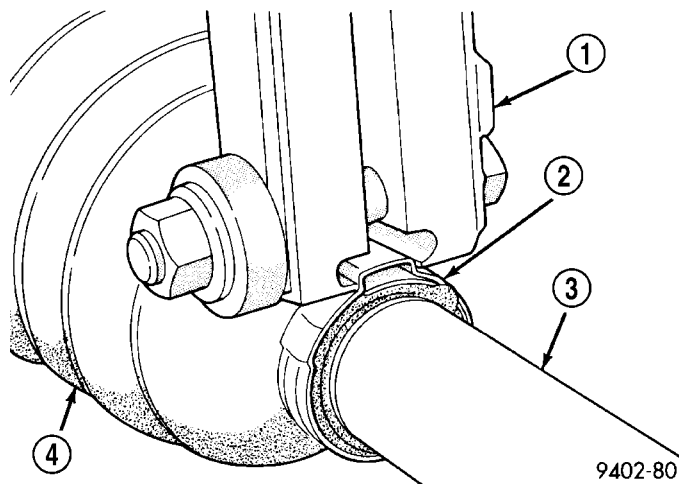
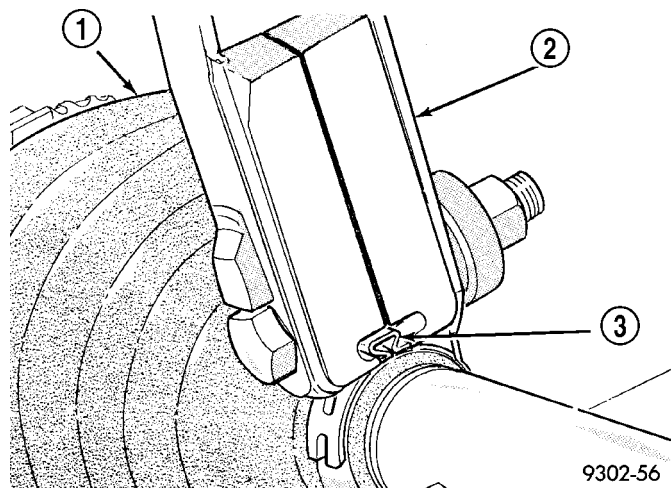

Fig. 27 Crimping Tool Installed On Sealing Boot Clamp
Fig. 28 Sealing Boot Retaining Clamp Installed
(7) Clamp sealing boot onto interconnecting shaft using Crimper, Special Tool C-4975 and the following procedure. Place crimping tool C-4975 over bridge of clamp (Fig. 27). Tighten nut on crimping tool C-4975 until jaws on tool are closed completely together, face to face (Fig. 28).